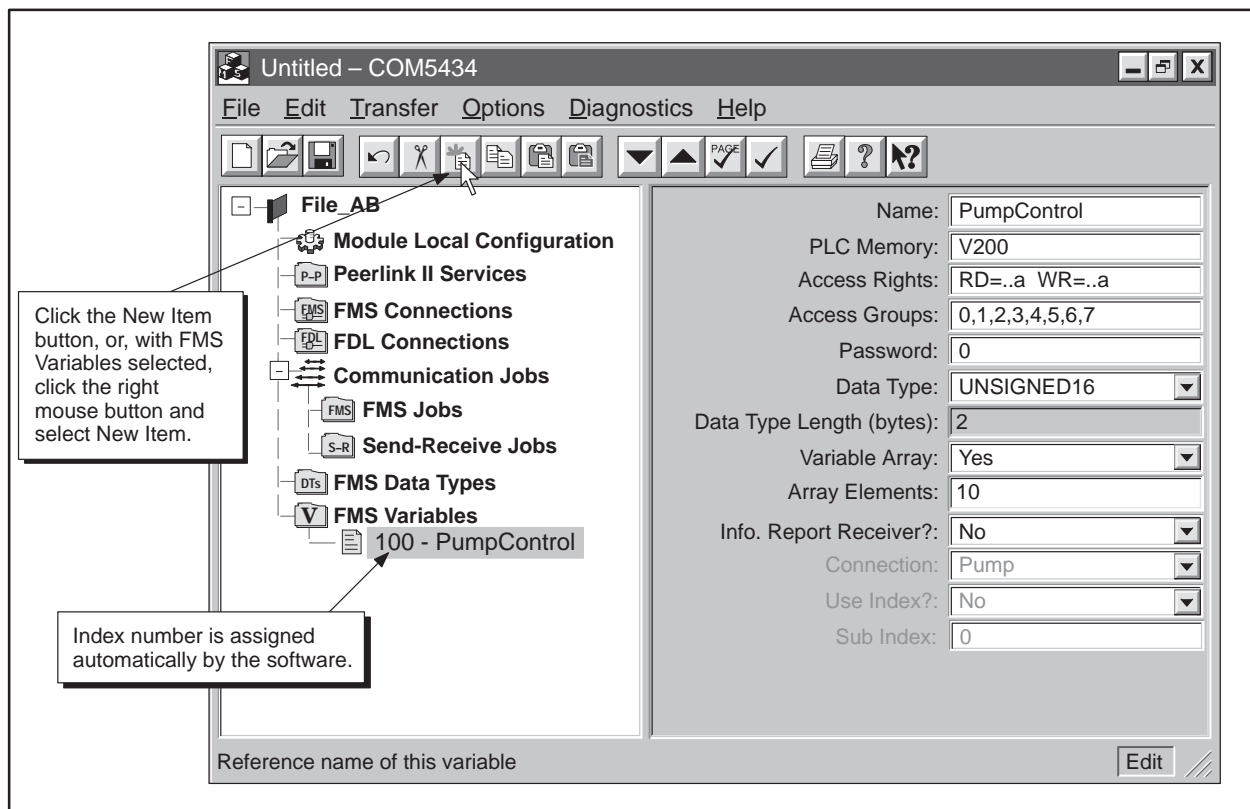

Figure 6-9 Defining an FMS Variable
3. Complete the fields listed below (and shown in Figure 6-9) to define the FMS variable for Station 2: